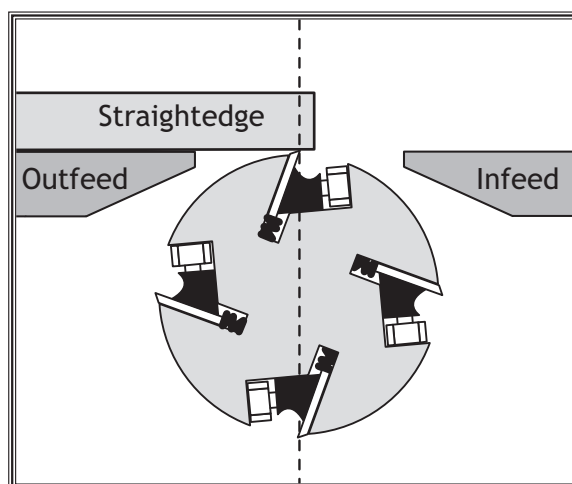

Figure 17. Using a straightedge to make sure outfeed table is level with knives at their highest point of rotation (TDC).
20. Carefully rotate the cutterhead pulley and notice if the knife contacts the straightedge when the knife is at its highest point in the rotation (top dead center or TDC), as shown in **Figure 17**.